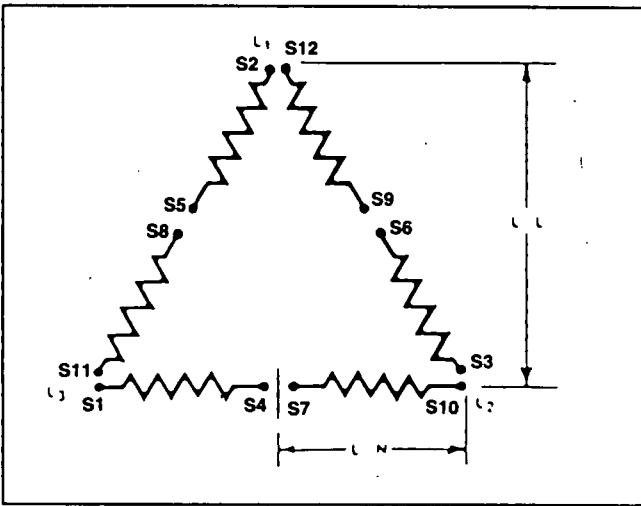

Figure 5. High Delta Connection System
See Figure 5. This stator has six (6) windings with twelve (12) leads brought out into the lower panel.